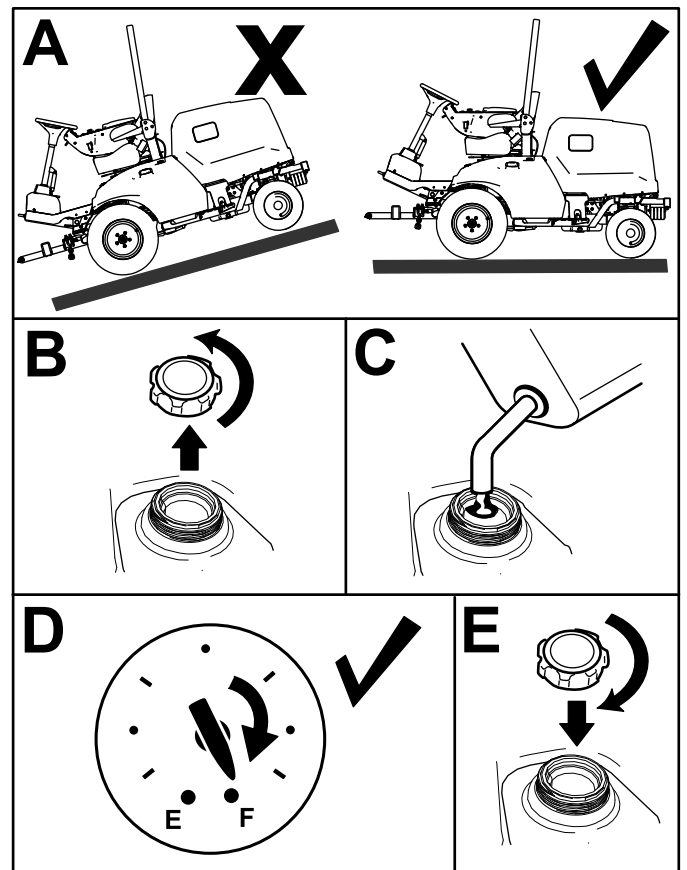

Figure 29
1. Park the machine on a level surface (Figure 29), engage the parking brake, shut off the engine, and remove the key